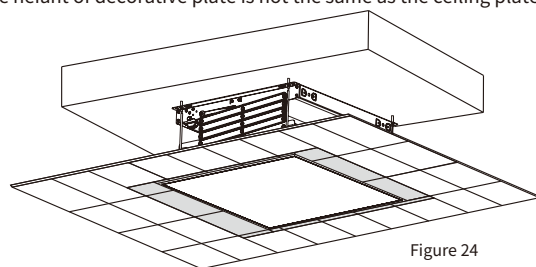

Figure 24
15. (Figure 24) Trim the ceiling plate to the appropriate size and assemble it back into the ceiling grid. The suggested distance of ceiling plate to the lift's decorative ceiling plate is about 5mm. Please use the same way to adjust the ceiling plate in case the height of decorative plate is not the same as the ceiling plate around.